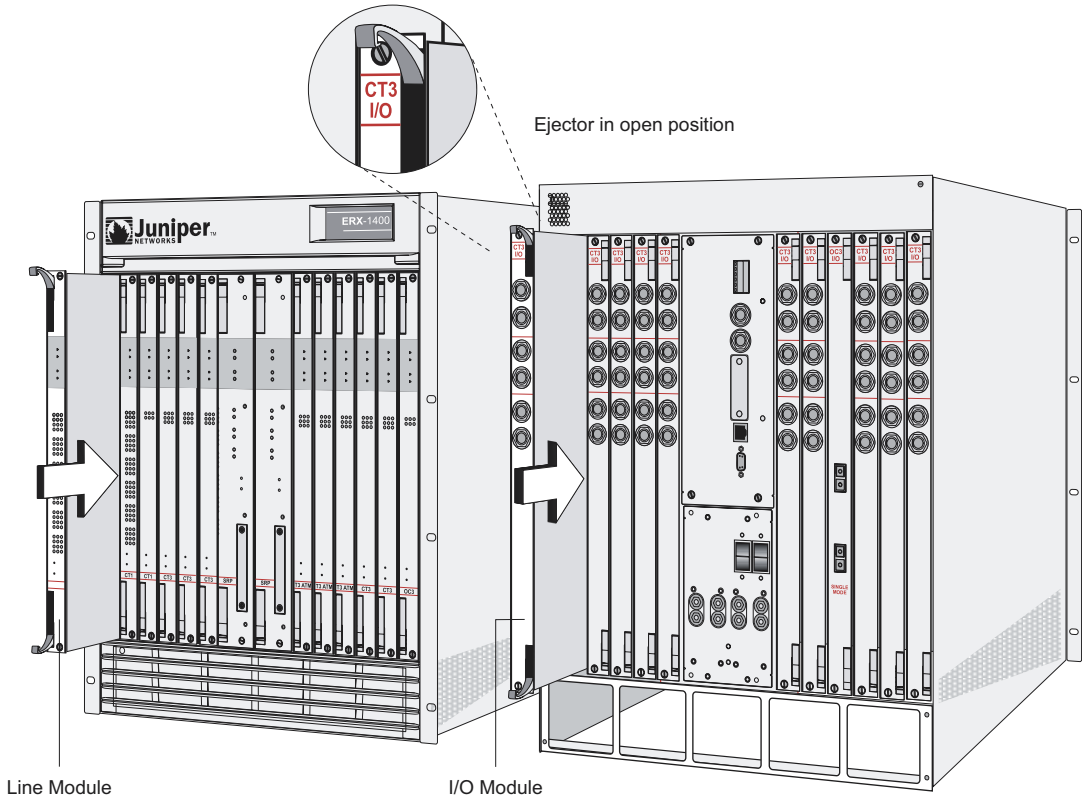

Figure 3-9 Installing a module in the ERX-1400 series
The module stops sliding when the ejectors make contact with the front of the chassis. Figure 3-9 shows how to install an I/O module and a line module in the ERX-1400 series.
- 5 Carefully slide the module out of the chassis, as shown in Figure 3-9.